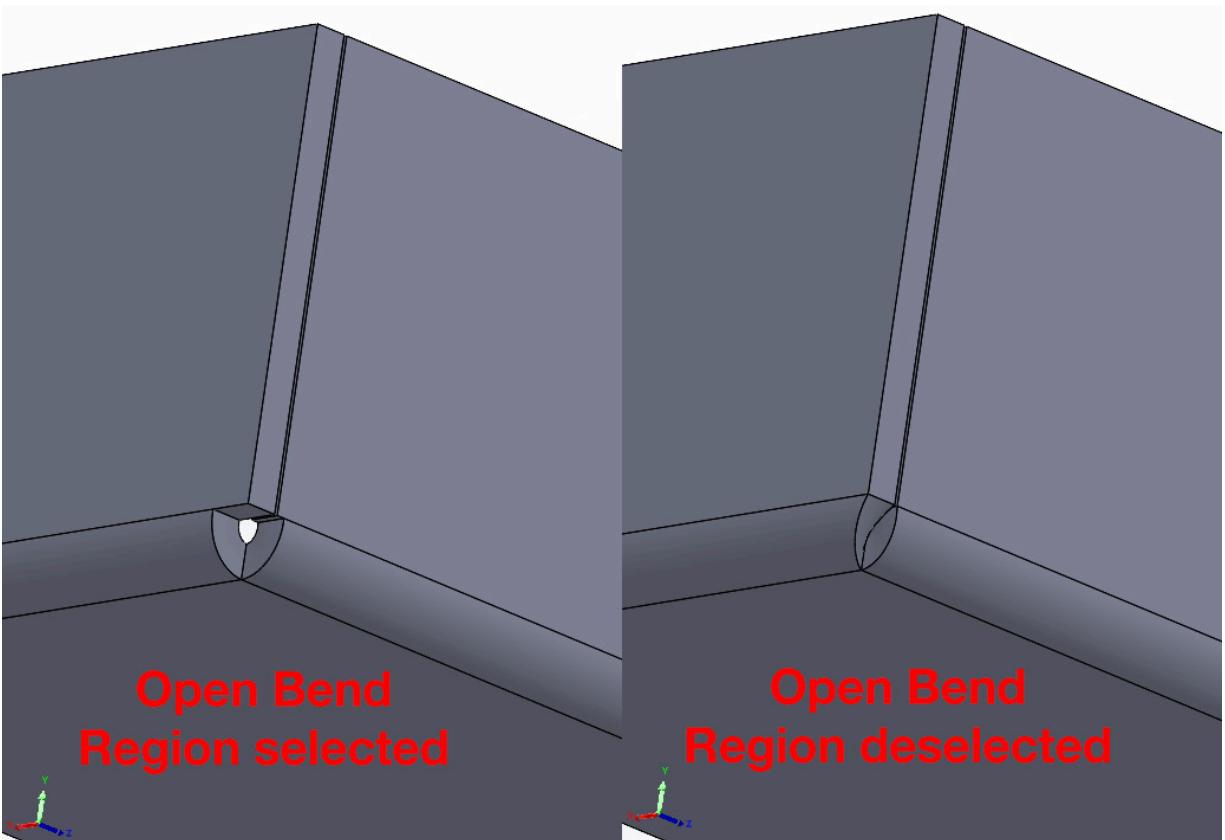

Figure 9.5: Closed Corner with Open bend region selected (left) and deselected (right)
7. Ensure that the **Open bend region** option is checked. This will automatically trim away a corner relief area when filling the gap. It is possible to create Closed Corners without this option selected (*Figure 9.5*) but it can result in manufacturing complications and can sometimes cause model errors if the **Gap distance** is too small.